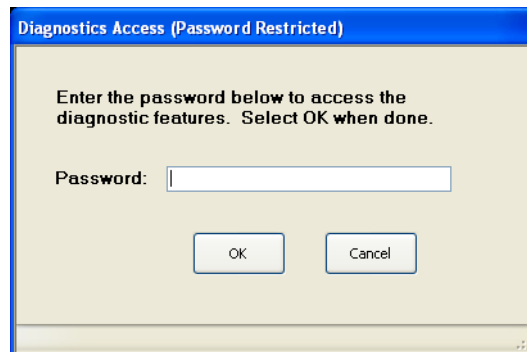

Figure 5-2. DIAGNOSTICS ACCESS Dialog Box
12. The Diagnostics Access dialog box appears providing an entry field to enter the diagnostics access password as shown below in Figure 5-2.